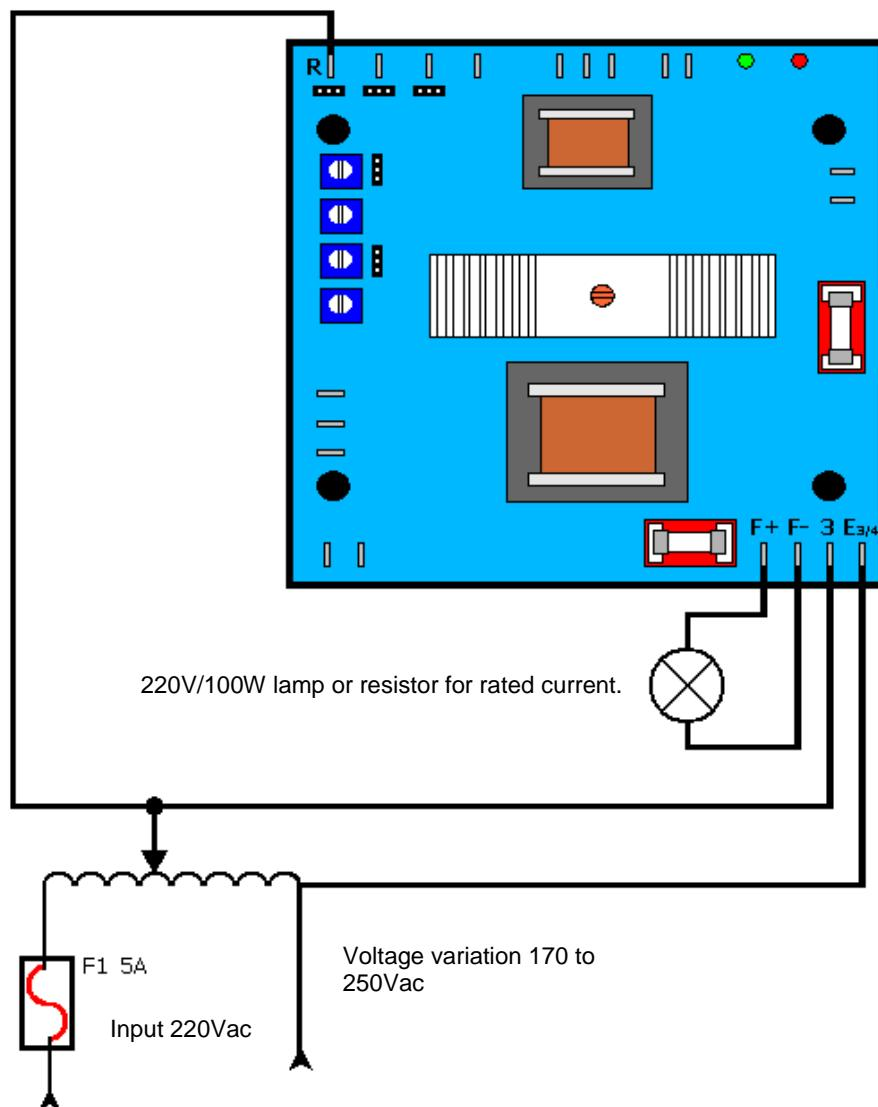

Figure 20.1 - Regulator connection without generator.
1. The lamp voltage must be the same voltage applied on the input. The figure 20.1 shows an example using a 220V/100W lamp.
21. DIMENSIONS OF MODEL WRGA-02 /D (MM)